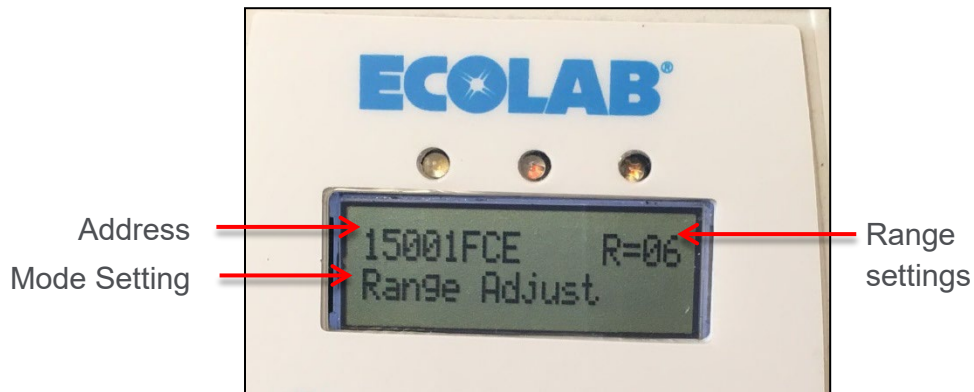

Figure 3. Installation Tool screen
1. Hold the Installation Tool within 10 inches of the HHCM POC and select mode “Range Adjust” (Refer to Ecolab Beacon Installation Tool User’s Guide). Activate the HHCM POC (i.e., dispense product from bottle in holder or push buttons down manually) to establish communication between the HHCM POC and the Installation Tool. Note: both yellow and red LED on the Installation Tool will flash when it has successfully communicated with the HHCM POC. The HHCM POC address (device ID number) and its current range setting should be displayed on the Installation Tool screen (See Figure 3).
2. To adjust the communication range, press the UP  (increase) or Down (decrease)  key on the Installation Tool until the desired range setting is displayed, then press the “Select” button. An audible confirmation from the Installation Tool should be heard. Activate the HHCM POC again, to complete the update to the range setting on the HHCM POC. Note: The LED on the HHCM POC will flash two (2) times when the range setting has successfully updated.